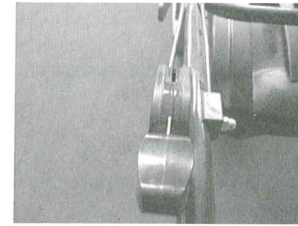

Fig.6C
3.2 When starting cool engine, turn throttle choke lever to "  " position. (Fig.6C)
3. When starting warm engine and Operating, turn throttle choke lever to "  " position. (Fig.6C)